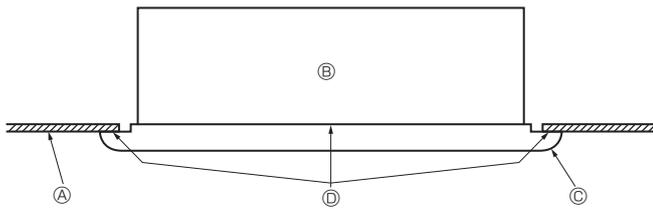

Fig. 5-6
- Next tighten the securing bolts (2) and securing screws (3) in the centre three places.
- Finally tighten the securing bolts (2) in the four places at left and right.
- At this point, make sure there are no gaps between the indoor unit and the front panel, and between the front panel and the ceiling surface. If there are gaps, the wind may come in and it may cause water to drip (Fig. 5-6).
### 5.4. Checks after installing (Fig. 5-6)